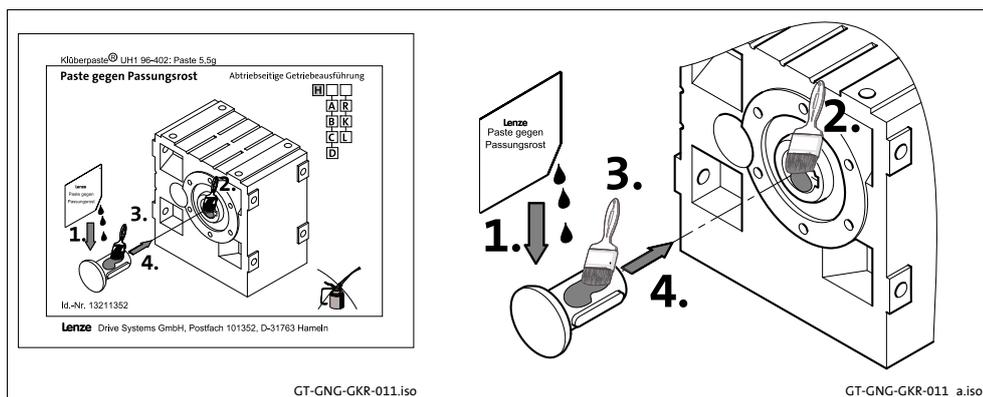

Fig. 5 Application of fitting grease against fretting corrosion (can be ordered optionally)
- Apply fitting grease (Fig. 5) to the shaft and into the hollow shaft bore.